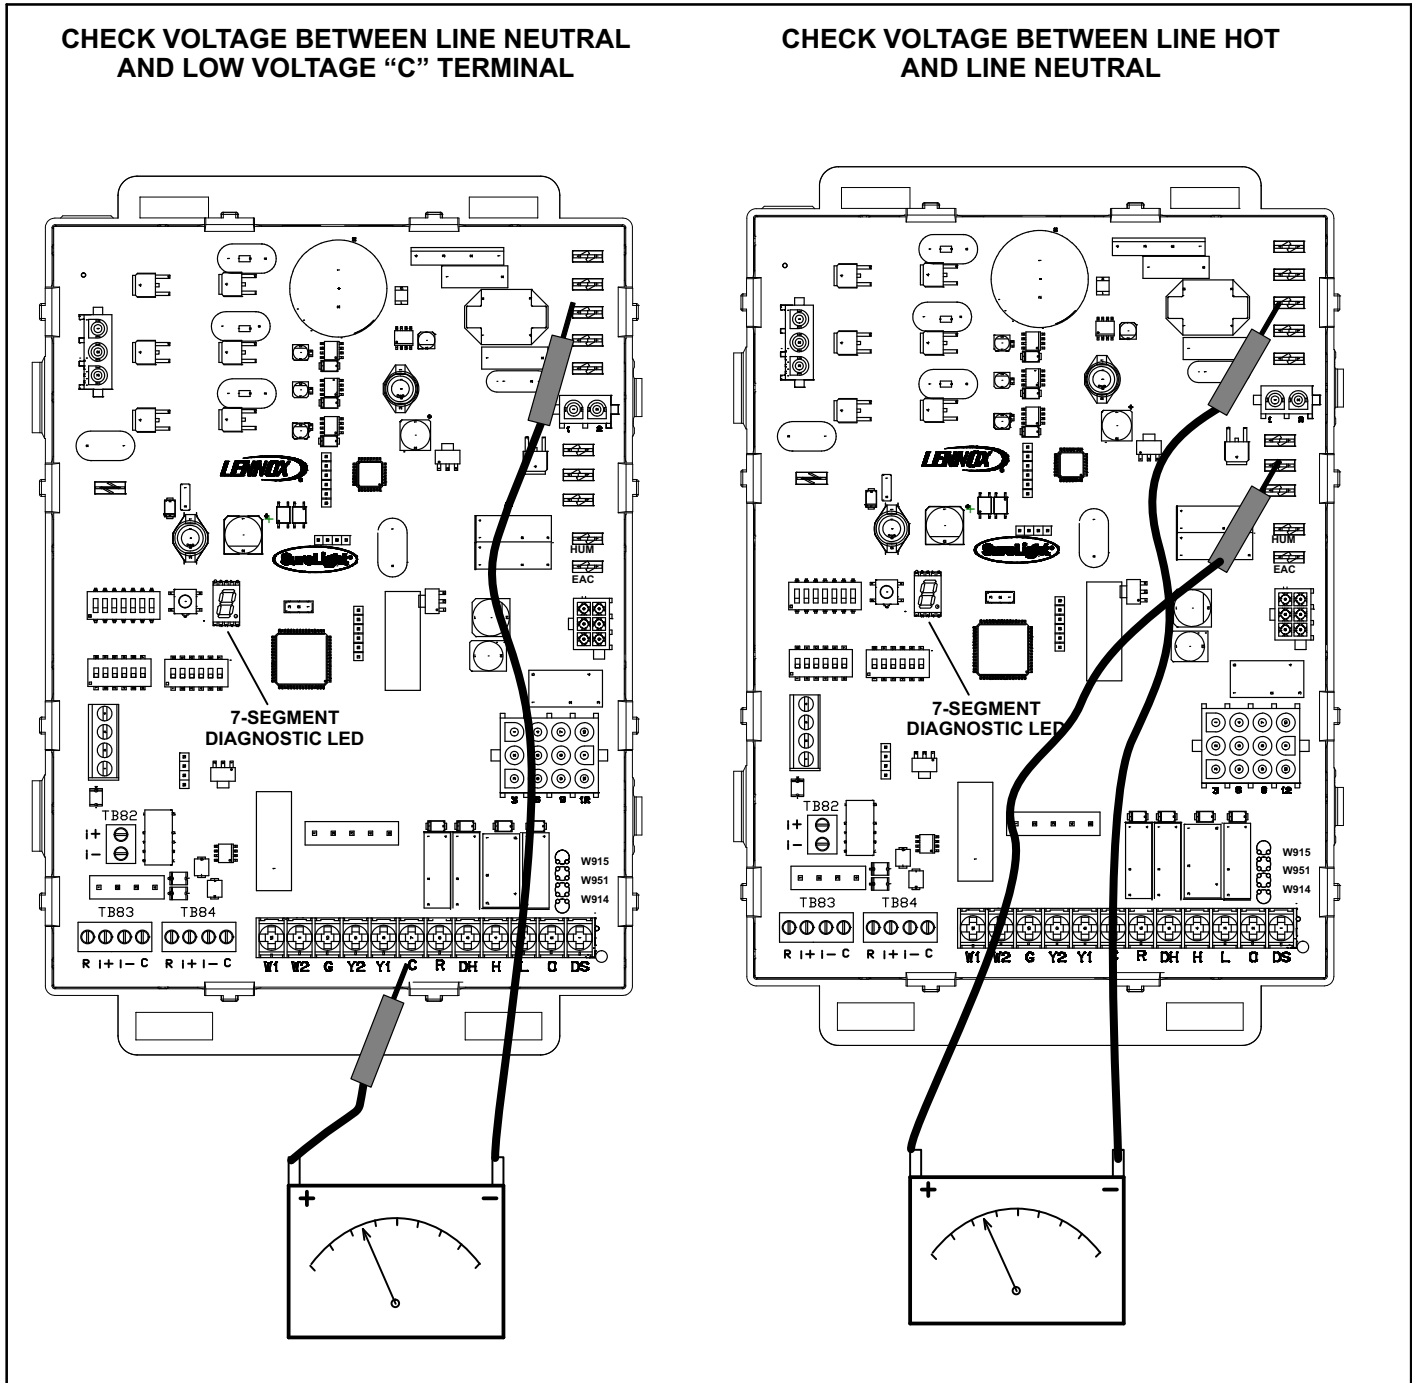

FIGURE 56
- 1 - Measure the AC voltage between Line Neutral (spade terminals) and "C" terminal (low voltage terminal block) on the integrated control. See figure 56. A wide variation in the voltage between Line Neutral and "C" as a function of load indicates a poor or partial ground. Compare the readings to the table below. If the read-
- 2 - In addition, measure the AC voltage from Line Hot to Line Neutral (spade terminals) on the integrated control. See figure 56. This voltage should be in the range of 97 to 132 Vac